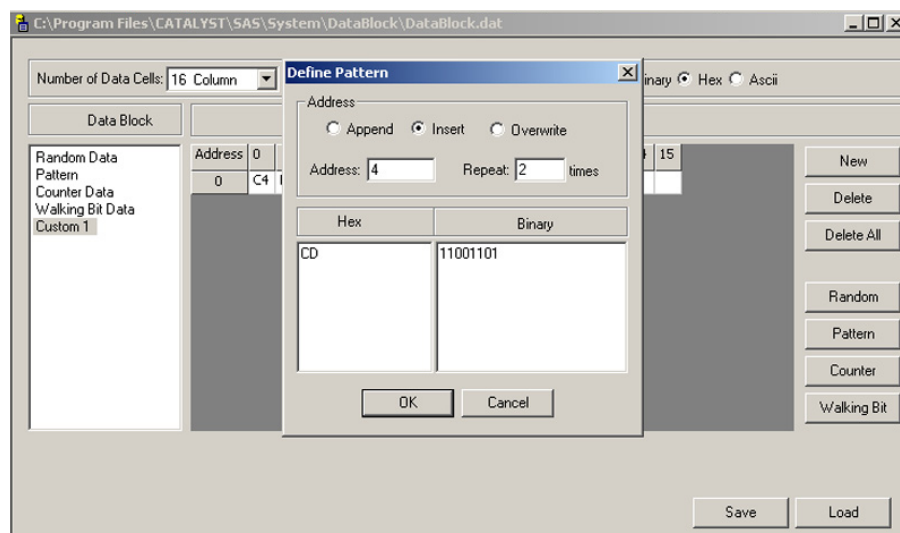

Figure 2.84: Define Your Own Data Pattern
1. Click **Pattern** to open the Define Pattern dialog box as shown in Figure 2.84: